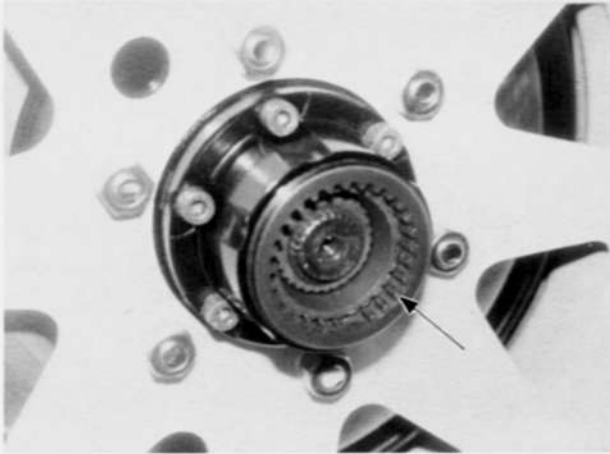

Fig. 17-5-31
4. Confirm that slide gear of each automatic free wheeling hub at right and left is slid toward hub body inside so that slide gear spline is completely disengaged from hub body spline (i.e., each automatic free wheeling hub is in the free condition). (Fig. 17-5-31)